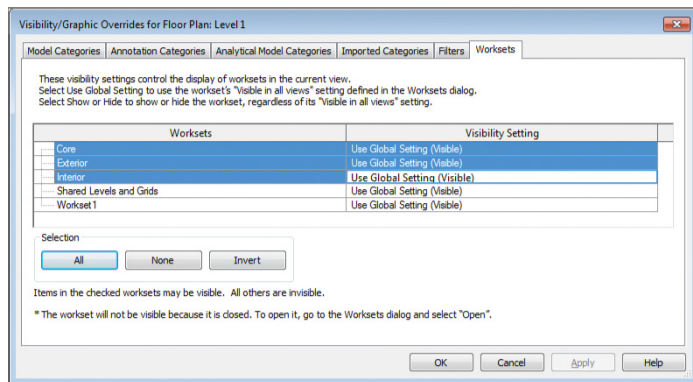

FIGURE 10.12 Resetting the visibility settings
7. None of the geometry or rooms is visible in your project. Open the Visibility/Graphic Overrides dialog box for the view, and reset the visibility settings, as shown in Figure 10.12. All the elements once again become visible.